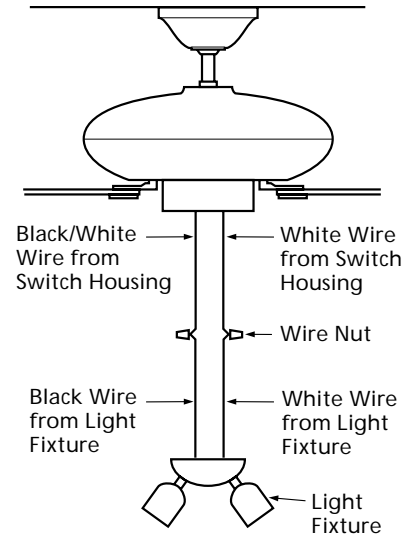

Figure 9b - Wiring Light Fixture to Fan
6. Connect the black wire from the light fixture to the black/white wire from the lower switch housing. See Figure 9b.
Connect the white wire from the light fixture to the white wire from the lower switch housing. See Figure 9b.